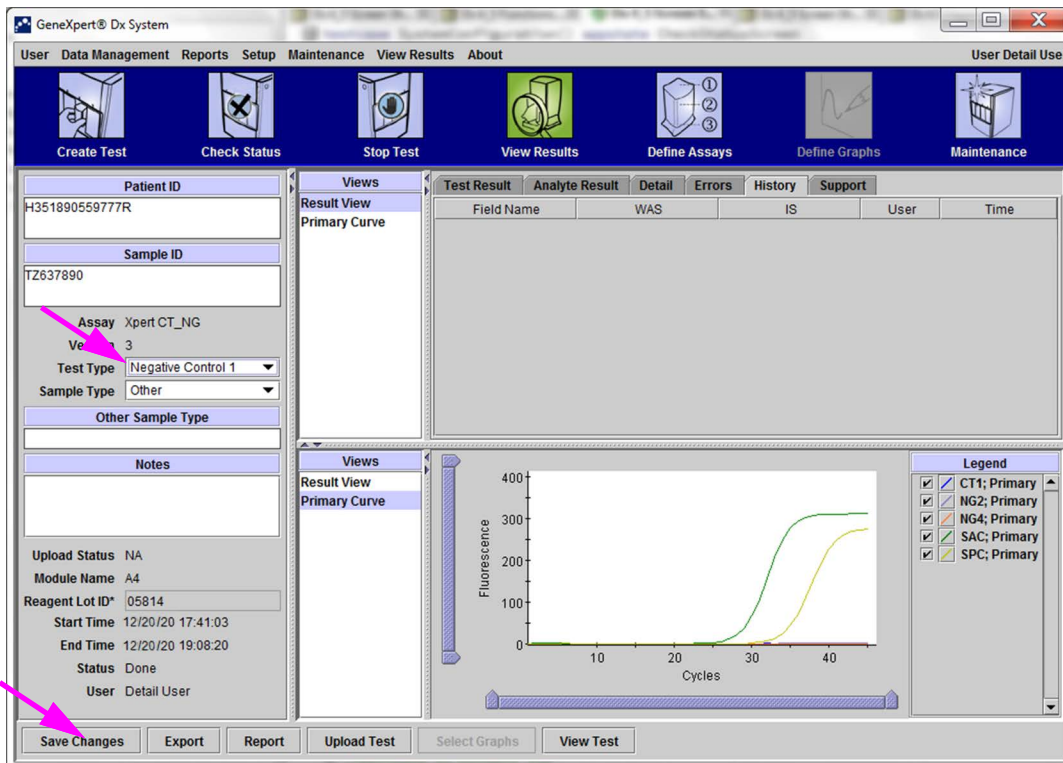
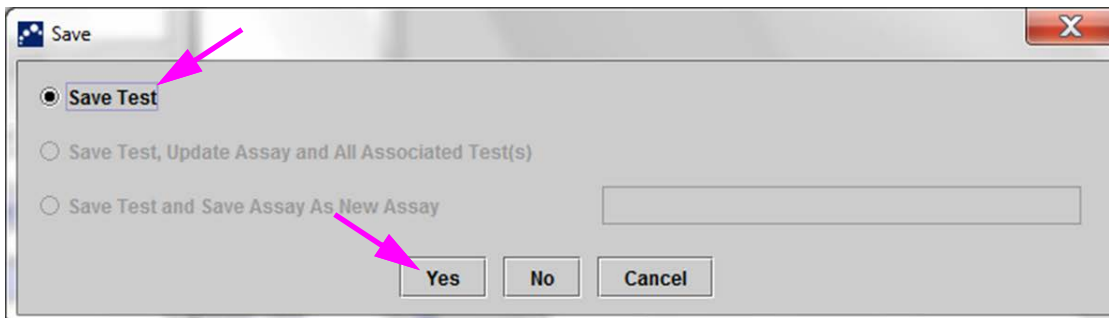

Figure 5-45. GeneXpert Dx View Results Window—Test Type Changed
Figure 5-46. Save Dialog Box
3. Change Test Type to Negative Control as shown in Figure 5-45.
4. Click the **Save Changes** button located at the bottom of the View Results window (see Figure 5-45). The Save Test dialog box appears. See Figure 5-46.